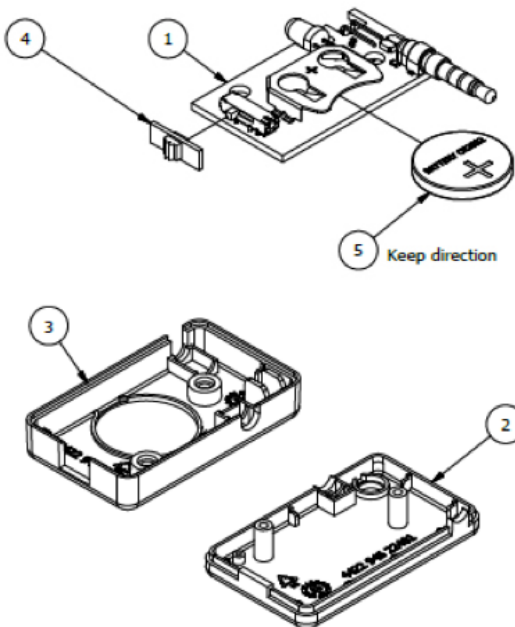

Figure 1
- 1 Disassemble the IR Dongle and replace the battery with identical polarity as shown on Figure 1.